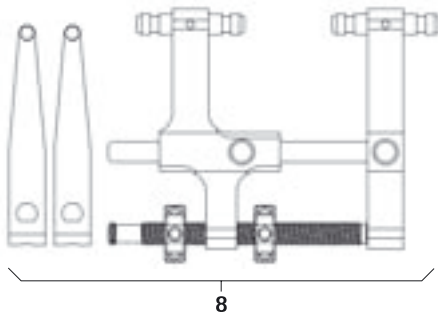

Fig. 12
- Mount distractor 8 with the distraction blades, see Fig. 12.